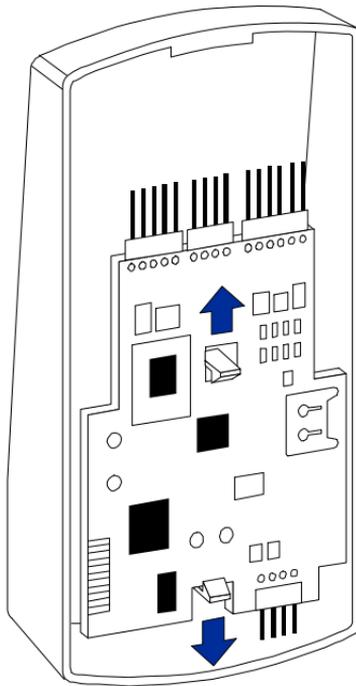

Figure 4 Removing the Circuit Board
To wire the EntryProx unit for a standard installation, refer to Figure 4 and follow these instructions.
2. Remove the main circuit board by pushing outward on the two spring tabs in the direction shown in Figure 4.